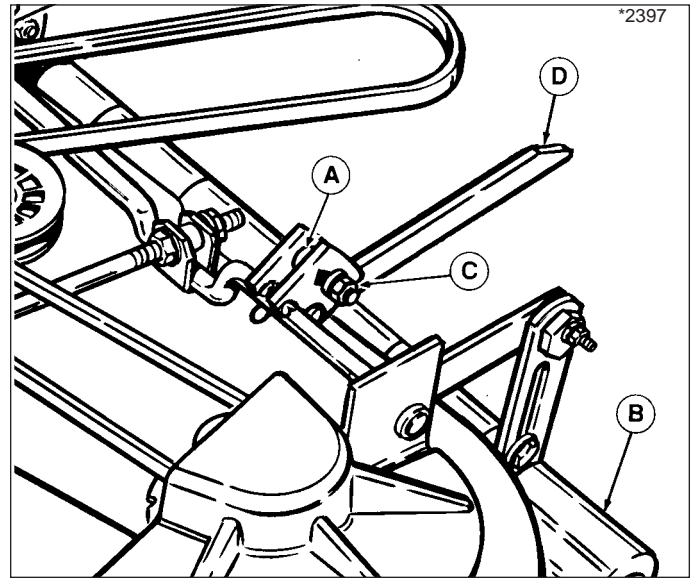

Figure 26. Trailing Arms
3. Loosen nut (C, Figure 26) so trailing arms are loose. Mower must be resting on rollers with no weight on trailing arms.